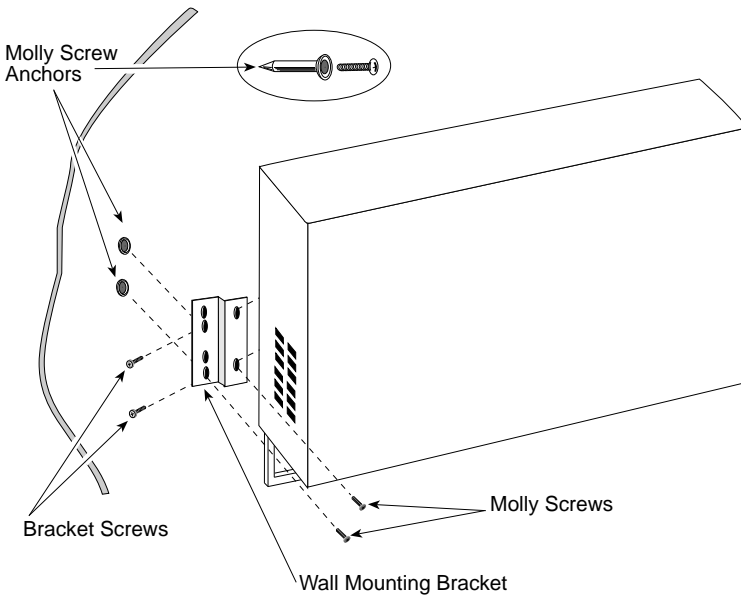

Figure 3-4. Wall Mounting the TRXI
1. Use the supplied screws to attach the wall mounting brackets to the bottom of the TRXI as shown in Figure 3-4. There are two brackets, one for each side.
6. Position the TRXI on the wall over the anchors and reinstall the four anchor screws to attach the TRXI to the wall, as shown in Figure 3-4. Tighten the four anchor screws.